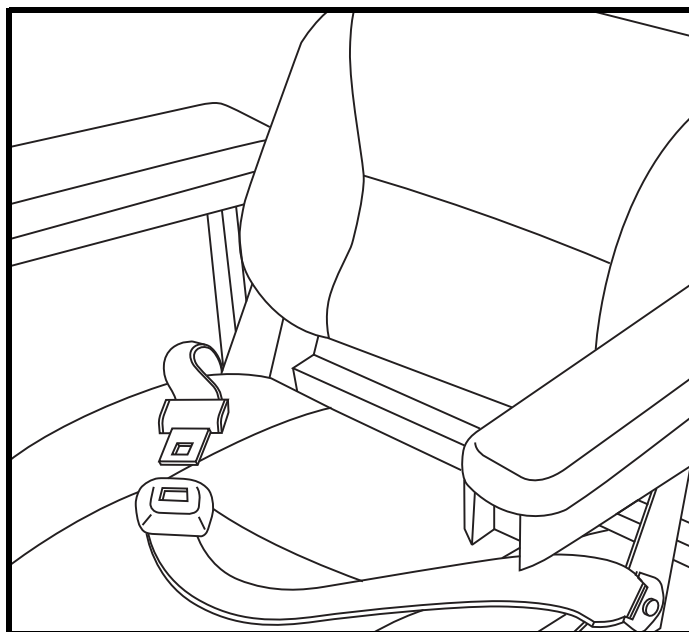

Figure 17. Positioning Belt Adjustment
Your travel chair may be equipped with a positioning belt that can be adjusted for operator comfort. See **figure 17**. The positioning belt is designed to support the operator so that he/she does not slide down or forward in the seat. The positioning belt is not designed for use as a restraining device.
1. Once seated, insert the metal tab on one side of the belt into the plastic housing on the opposite side until you hear a click. See **figure 17**.